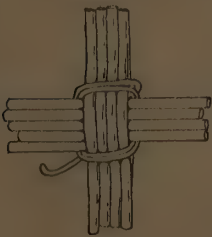

FIG. 10
7. Now bring the weaver from the upper right corner to the lower left corner, behind the spokes (Fig. 10).
7. Bring the weaver from the upper right corner to the lower left corner behind the spokes (Fig. 10).